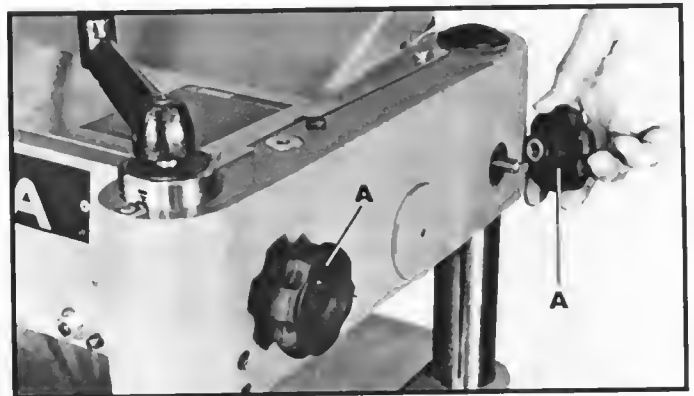

Fig. 5
1. Thread the two head locking knobs (A) to the two threaded rods on the side of the machine, as shown in Fig. 5.